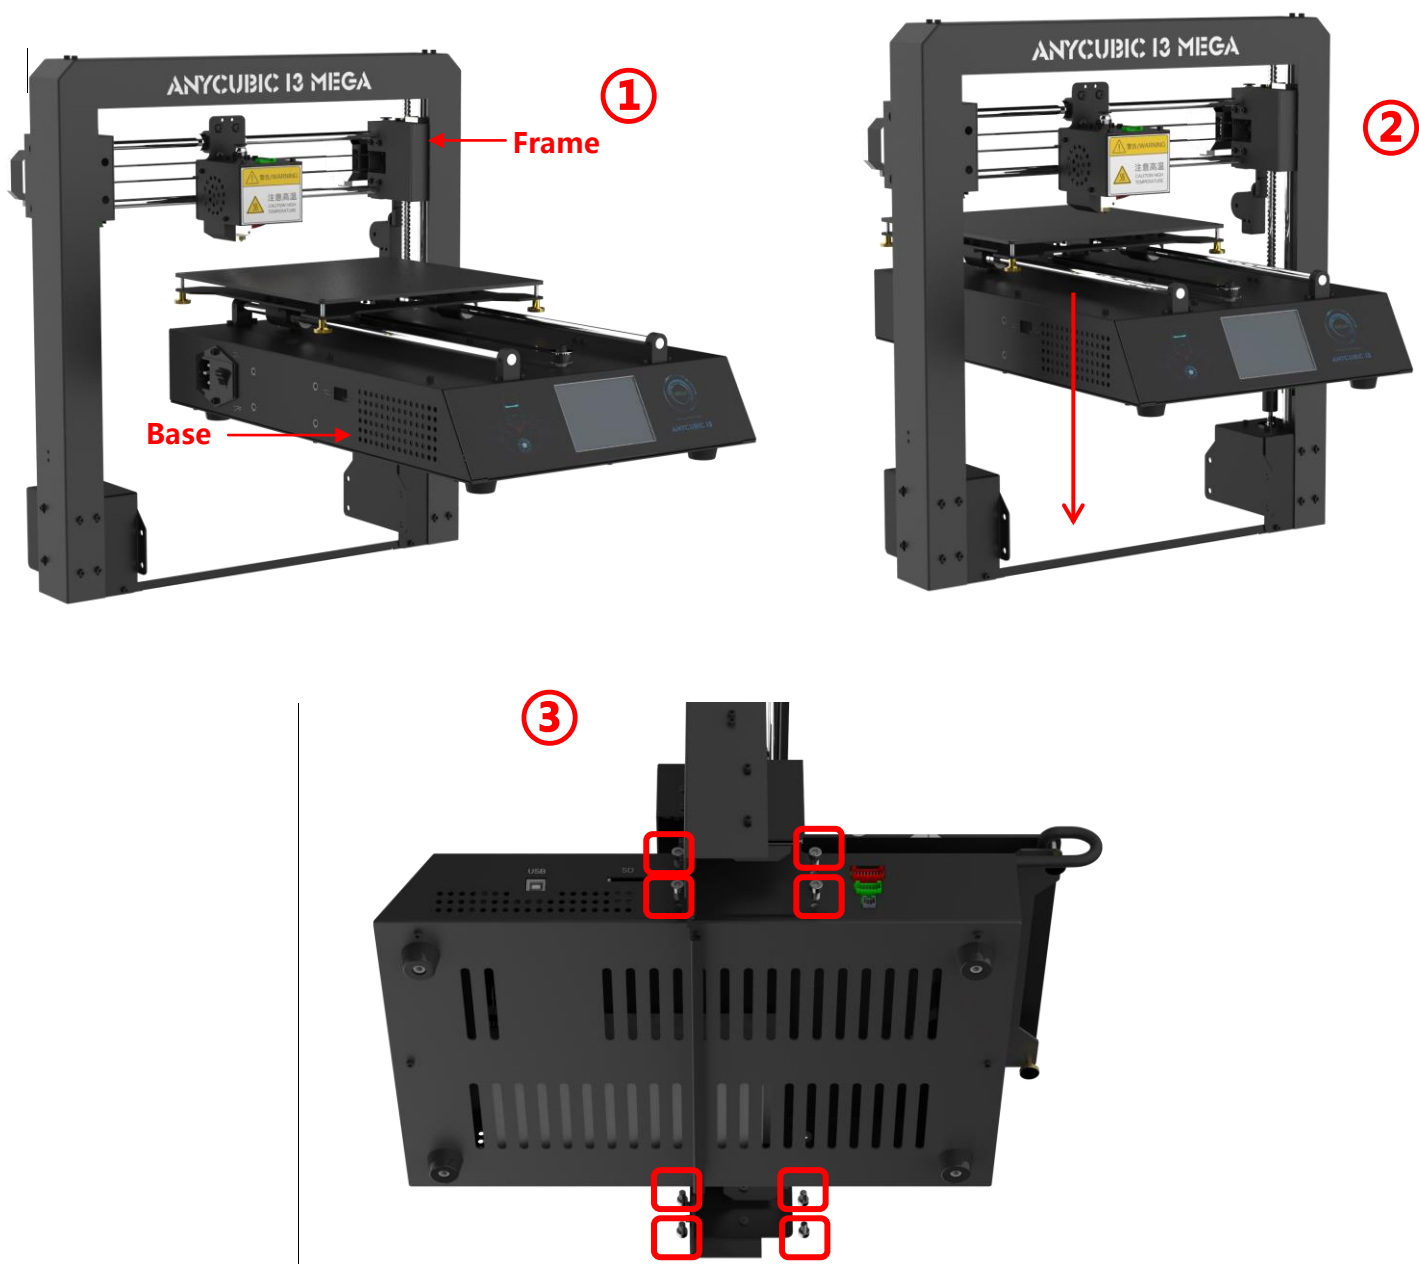

Figure 1
Step 2.Follow ① ② ③ in Fig. 1. Carefully lift the base to fit into the frame and fix them by 8 pieces of M5*8mm hex cap screws. The screw locations are indicated by red squares in ③. The screws can be installed in **diagonal order** and can be tightened after all screws installed in place.